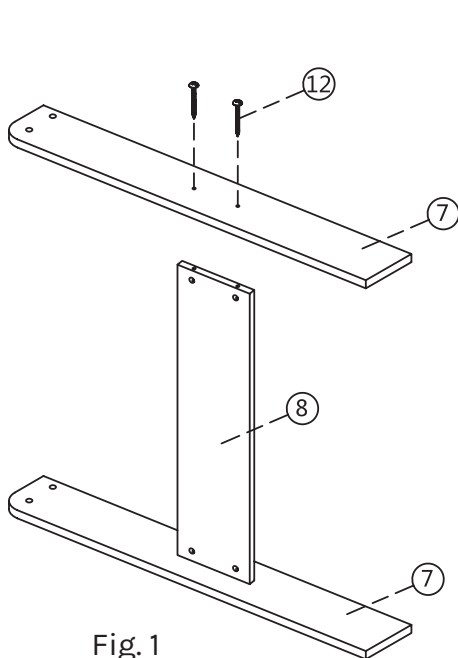

Fig. 1
1. Connect the 2x legs (7) to the support beam (8) using 4x screws 1/8"x1-3/4" (12). (Fig.1)